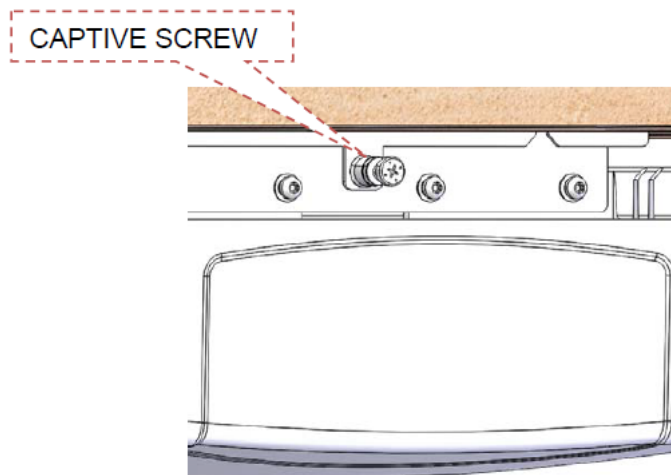

Figure 24
Step 6 Use Phillips screw driver to tighten the captive screw, as shown in figure 24
6. Click **Test button** to check settings whether there are ok, if not available , you may get a pop-up information as show in Figure 24.